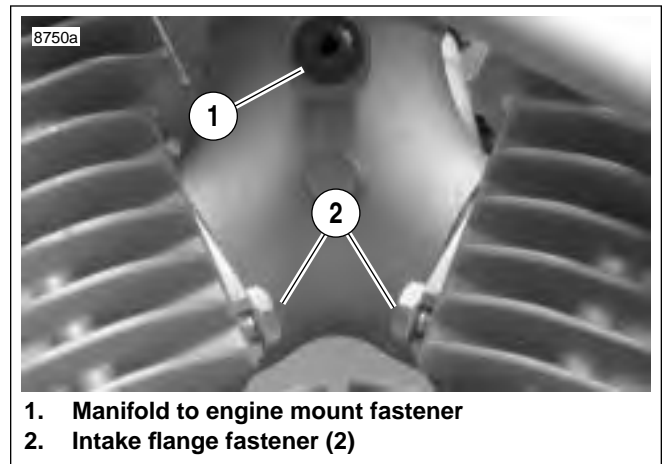
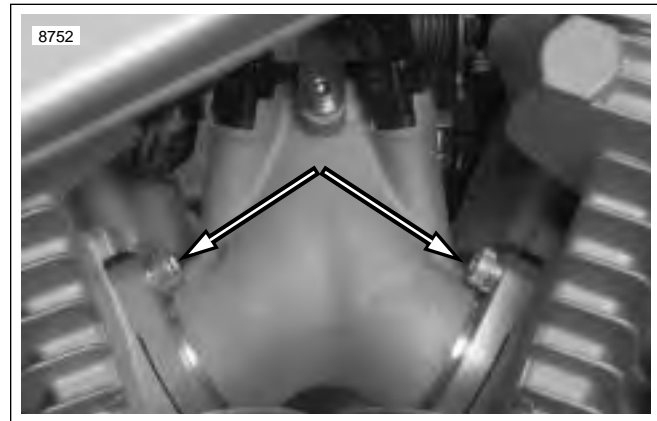

Figure 4-104. Intake Manifold (primary side)
Figure 4-105. Intake Manifold Fasteners (gearcase cover side)
- a. See Figure 4-104. On primary side, loosen but do not remove the two front and rear intake flange fasteners (2).
- b. Remove fastener (1) holding manifold to engine mount.
- c. See Figure 4-105. On gearcase cover side, remove both intake flange fasteners from cylinder heads.
- a. See Figure 4-104. Slide the assembly toward installed position. Manifold should slide over fasteners (2) on primary cover side of engine.